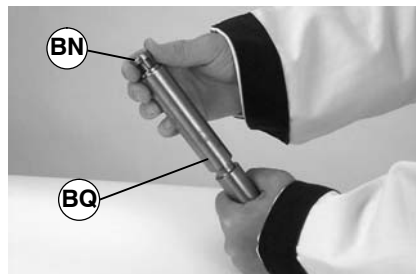

Figure 37
2. Slide bearing (part # 240338) (BN of Figure 37) onto spindle (BQ).